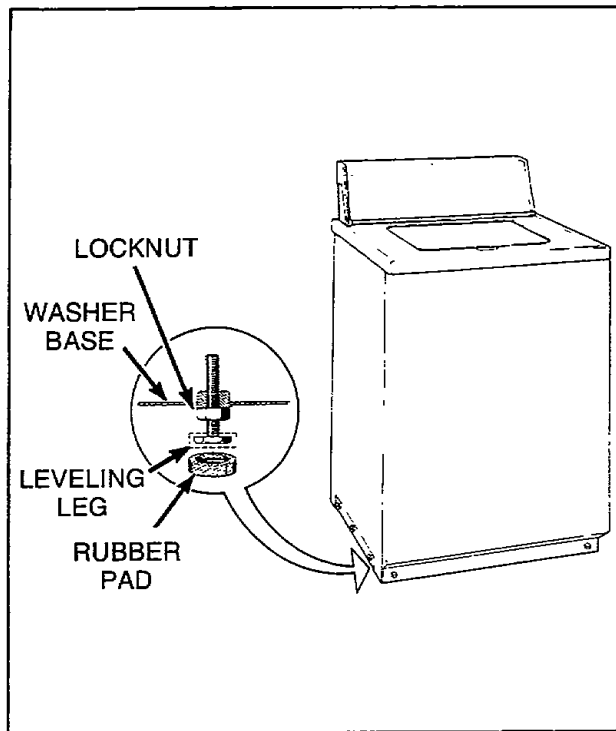

Figure 30
29. LEVELING LEGS (Refer to Figure 30)